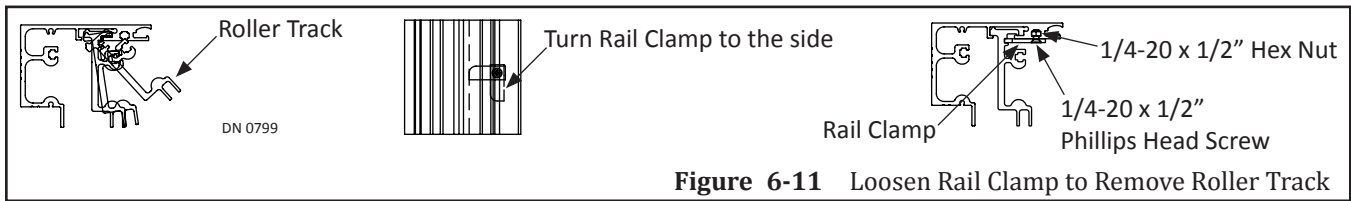

Figure 6-11 Loosen Rail Clamp to Remove Roller Track
3. Tilt the Roller Track until it is inserted within the Header slot. Then let the Roller Track drop down until it is perpendicular to the floor. Please see Figure 6-11.
4. Return the (4) Rail Clamps back to their original position.
5. Secure each Rail Clamp with (1) 1/4-20 x 1/2 inch Phillips Head screws.